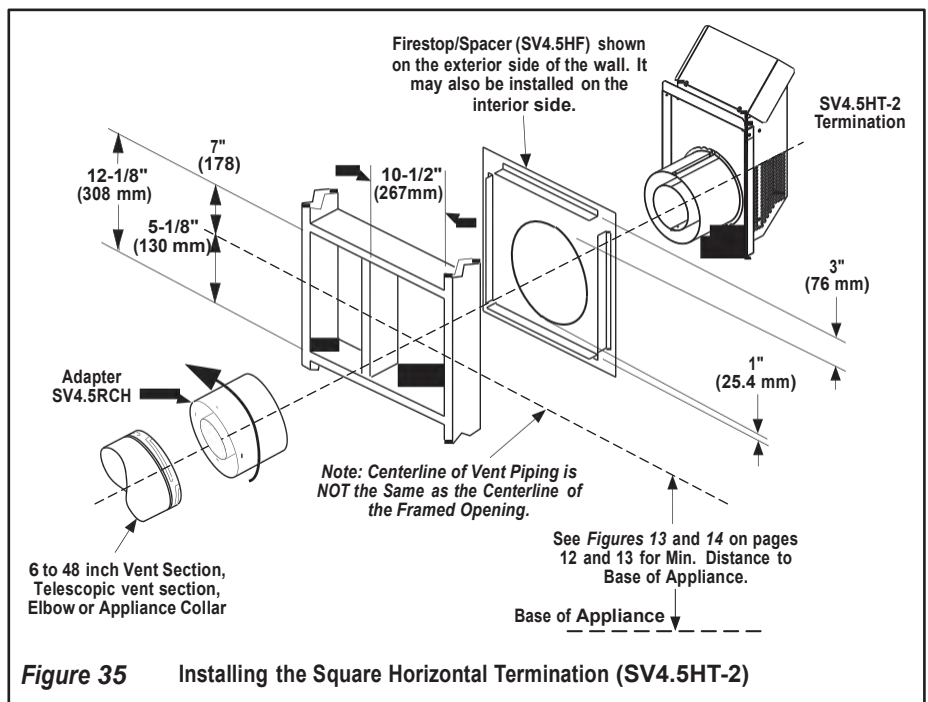

Figure 35 Installing the Square Horizontal Termination (SV4.5HT-2)
K. Attach termination adapter - Attach the adapter (adapter -SV4.5RCH - provided with the termination) to the vent section or telescoping vent section, elbow or appliance collar as shown in **Figure 35** in the same manner as any SV4.5 vent component (refer to **Step E**).
L. Install Firestop/Spacer at exterior wall - When using the **square** termination, install SV4.5HF (Secure Vent), SF4.5HF (Secure Flex) Firestop/Spacer over the opening at the exterior side of the framing, long side up, with the 3 inch spacer clearance at the top as shown in **Figure 35**, and nail into place.